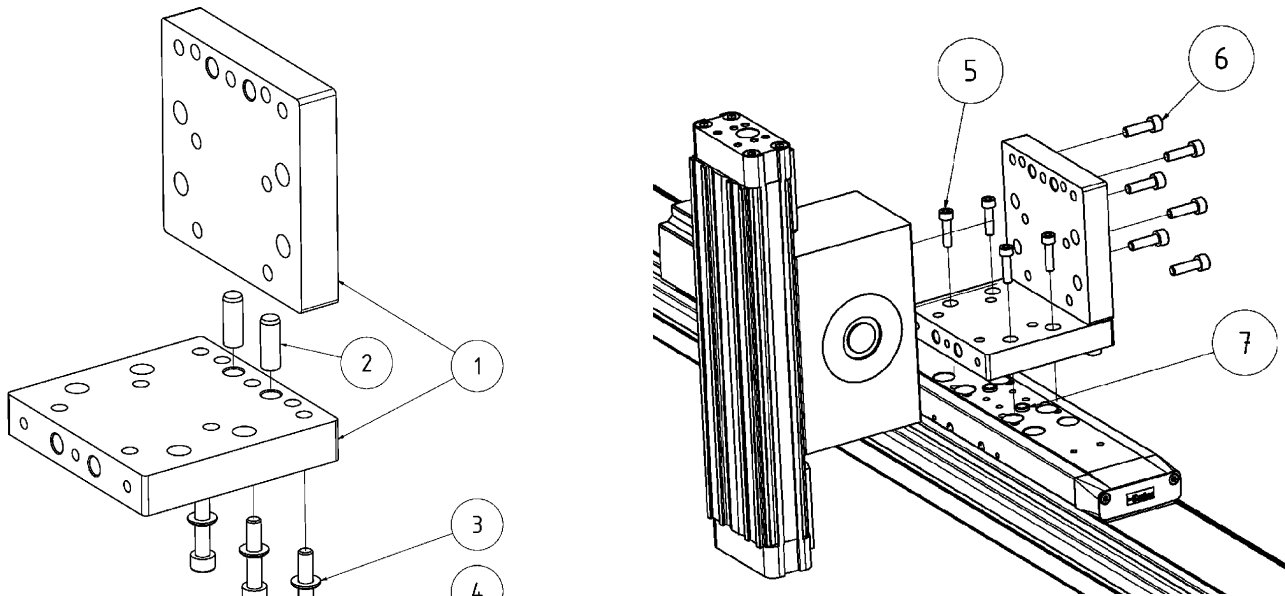

Figure 8: Assembly of mounting plates
- ◆ Remove both centering sleeves on the carriage of the linear axis (please refer to Figure 8: Pos. 7)
- ◆ Press the cylinder pins (see Figure 8: Pos. 2) supplied into the lower mounting plate (see Figure 8: Pos. 1). Use a one-hand lever press or a comparable, suitable press-in device.
- ◆ Then place the upper mounting plate (see Figure 8: Pos. 1) vertically on the lower mounting plate and press it onto the pre-assembled dowel pins.
- ◆ Screw together the two mounting plates with the screws supplied (see Figure 8 Pos. 4) and the required tightening torque (see Table 8).
- ◆ Position the pre-assembled mounting plates on the carriage of the HLR linear actuator, align them parallel to the carriage profile and fix them with the screws supplied (see Figure 8: Pos. 5) and the required tightening torque (see Table 8).
- ◆ Place the OSP-E20BV z-axis on the mounting plate and fasten it with the supplied screws (see Figure 8: Pos. 6) and the required tightening torque (please refer to Table 8).
Tightening torque of mounting plates (Figure 8, Pos.4)
Tightening torque of mounting plates (Figure 8, Pos.5)
Tightening torque OSP-E20BV (Figure 8, Pos.6)